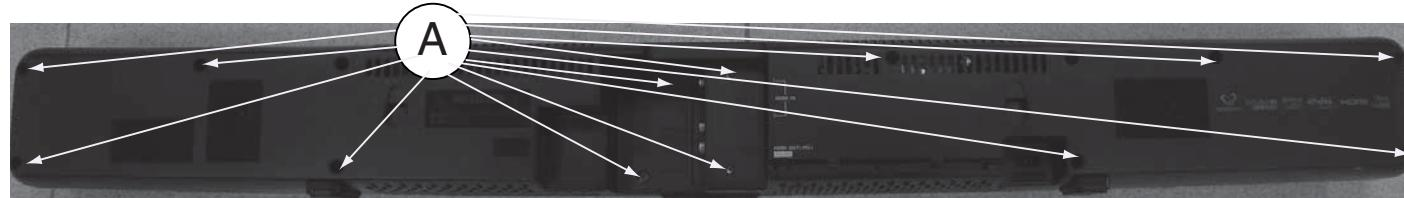

Figure 1
- 1) Loosen 13 screws "A" to move the Rear Cover as shown in figure 1.